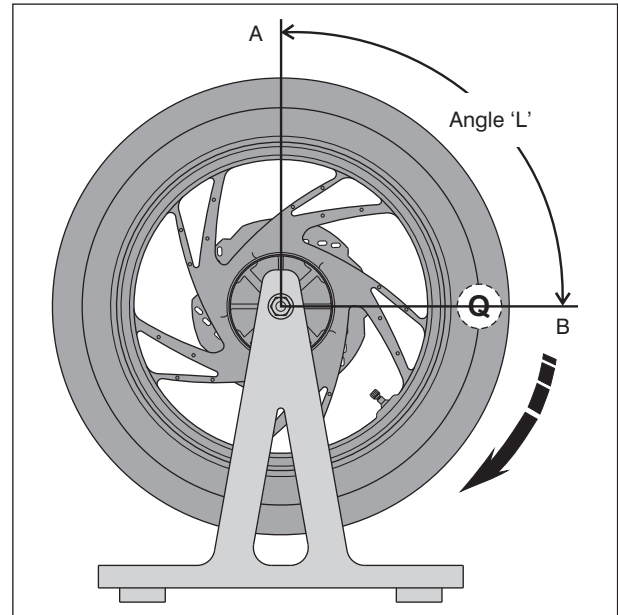

Fig. 2.133
3. Hold the wheel by hand and rotate it ¼ turn downwards (angle 'L' indicated in the figure) and leave. (Fig. 2.133) When the wheel is left, if the wheel does not rotate further ('up' or 'down'), it may be concluded that the wheel is balanced. If the wheel rotates 'up' or 'down', then the wheel needs to be balanced further.